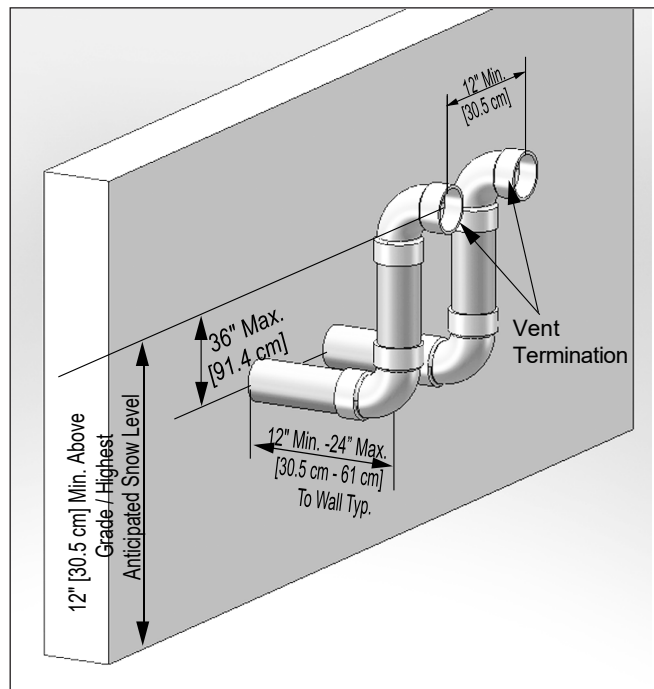

Fig. 20 - Category IV - Sidewall Termination of Multiple INSTINCT Boilers
2. Each vent termination must be a minimum 12" [30.5 cm] from the adjacent termination for installations in the U.S. as shown in Fig. 20 below. For installations in Canada, provide clearances as required by CAN/CSA B149.1.